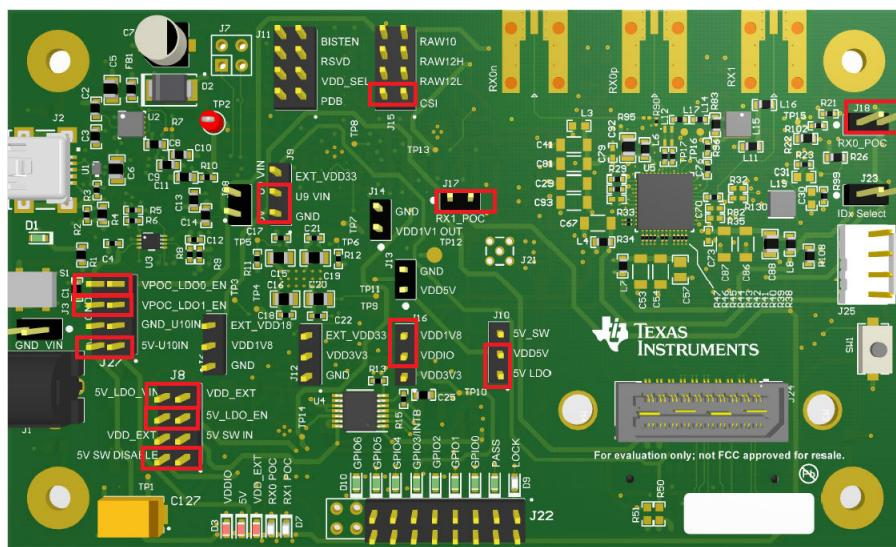

Figure 4-1. DS90UB95x-Q1EVM with Jumpers Highlighted
2. Configure jumpers J8, J10, J11, J15, J16, J23, J27 to set device's operating modes. The default configuration can be seen in Figure 4-1.